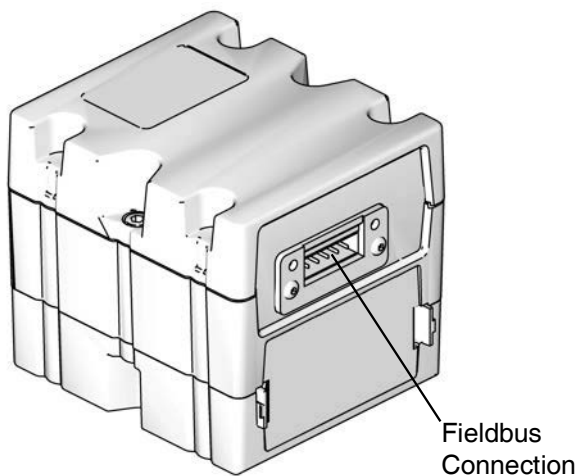

Fig. 24: CGM Fieldbus Connection
11. Connect the Ethernet, DeviceNet, or PROFIBUS cable to the fieldbus connection on the CGM as applicable. See **Figure 24**.